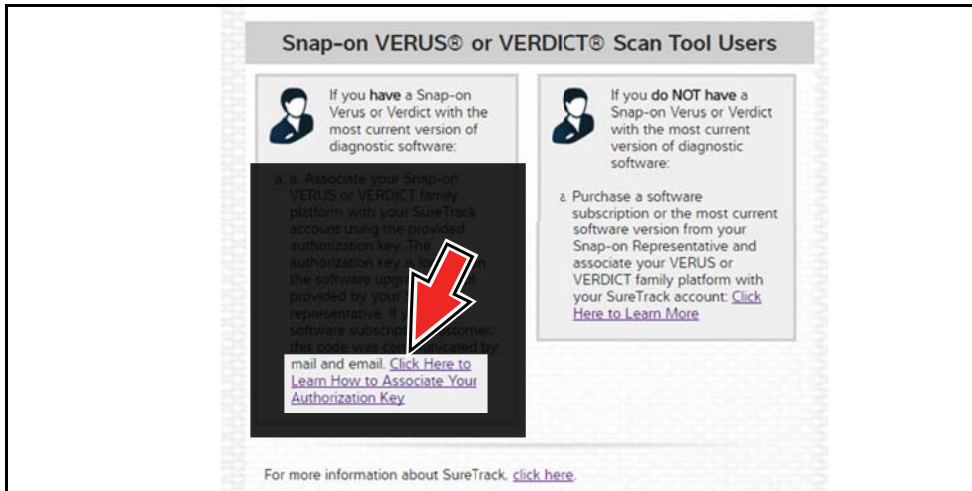

Figure 15-15
When your SureTrack account has expired, and you try to login you are directed to an information window (Figure 15-15).
2. Scroll down and select the link shown in (Figure 15-15)